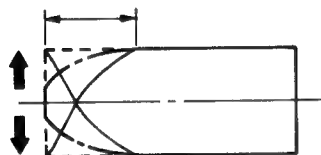

Fig. 1-4-16 Envelope rising when operation mode is switched from review to play mode
- Switch the Review mode to the Play mode. When switched to the Play mode, make sure the entrance side envelope becomes to an approximate steady state within 3 seconds as shown in Fig. 1-4-16. If it does not rise within 3 seconds, adjust as follows: